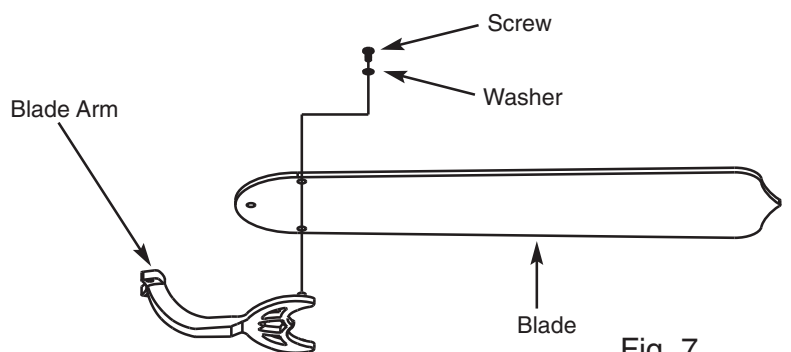

Fig. 7
- ❖ Attach each fan blade to a blade arm with three 3/16" x 7.5 mm blade screws and three 3/16" fiber washers (see figure 7). **DO NOT OVER TIGHEN THESE SCREWS.**